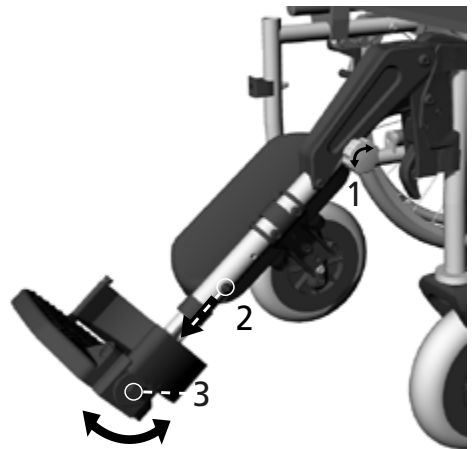

Fig.42
1. Loosen the star grip screw anticlockwise by 1 rotation. (1, Fig. 42).
1. To adjust the length, loosen the hexagonal screw (2, Fig.42) and pull/slide the footplate to the desired length.
1. To adjust the angle, loosen the Allen screw (3, Fig. 42) and pull the footplate slightly inwards until the lock is released. Now adjust the foot plate to the desired angle.